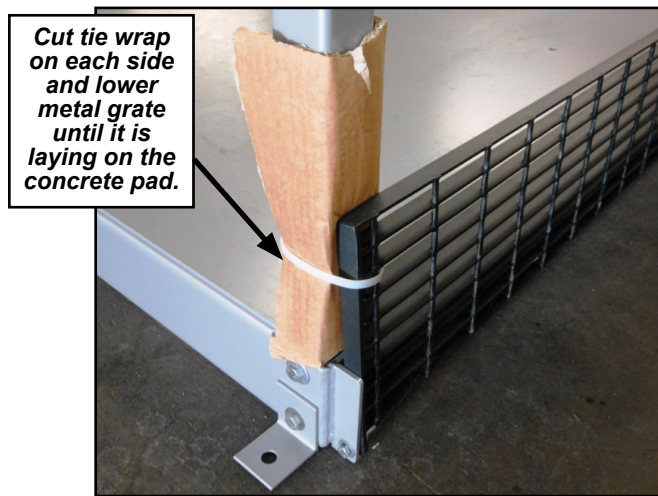

Figure 5 - Installing metal grating
- Metal grating for the high pressure cylinders is shipped with the grating folded up and secured in place with tie wraps (see Figure 5). Cut the tie wraps and lower the metal grating. This grating will be used to keep the high pressure cylinders off the ground.